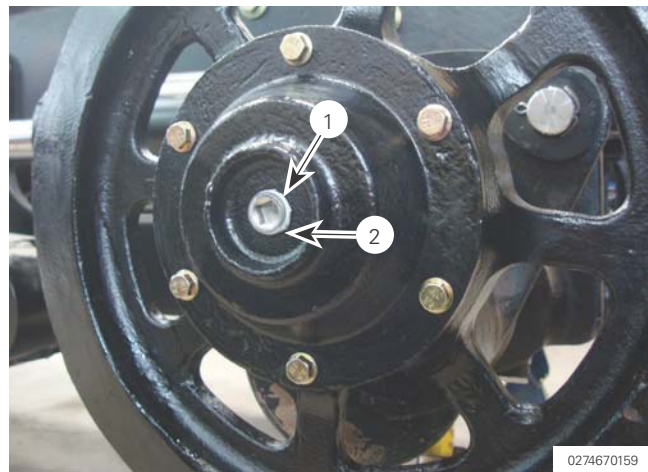

Figure 214
- » Using the center plug cavity, fill the hub to the recommended level with oil (see Figure 214). Refer to "TECHNICAL DATA" on page 114 for information on the recommended oil.